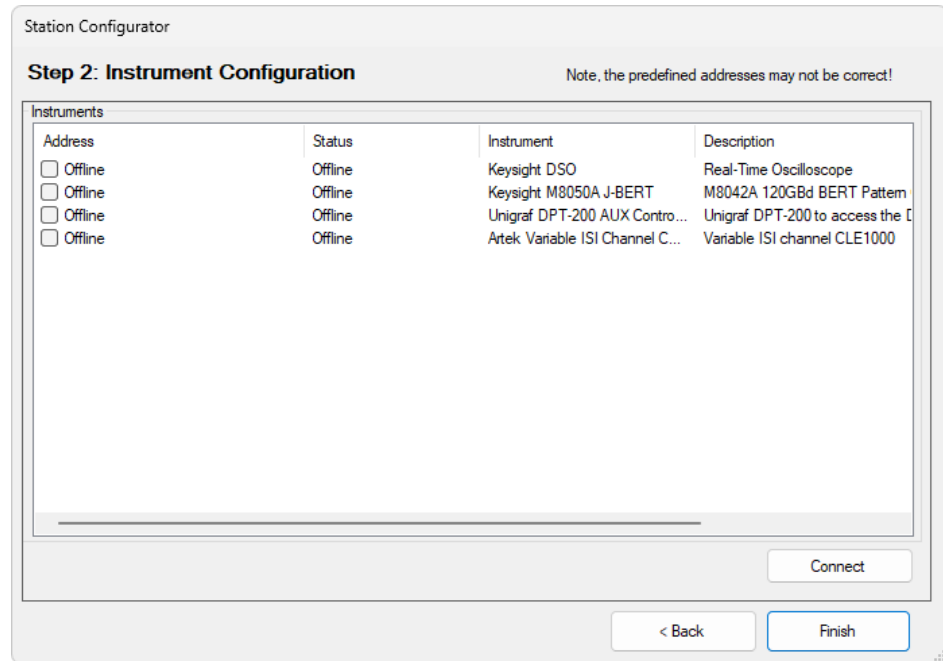

Figure 5-3 Example Instrument Configuration window
Once all required instruments have been selected, these are listed in the Instrument Configuration window (Figure 5-3).
- b Select the same instrument in the Instrument Configuration window (Figure 5-3) and paste the address in the corresponding Address text field.
After the test station has been configured, N5992 ValiFrame connects automatically to the instruments that are set to “Online” mode in the Instrument Configuration window (Figure 5-3). Once all the connections have been initialized successfully, you will see the N5992 ValiFrame main window.